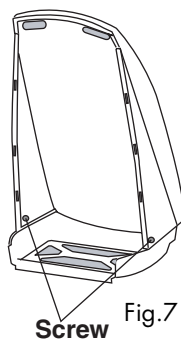

Fig.7
- 3) Fit the front panel assembly to the base plate by fixing the two screws (removed previously) through the aligned screw holes (holes D and A) (fig.7). Place the gas cylinder in the gas cylinder compartment and connect the regulator to the cylinder as shown on page 4.